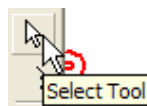

Figure 3: Select Tool Command
- Click the **Select Tool** command in the vertical toolbar to dismiss the target as shown in Figure 3.